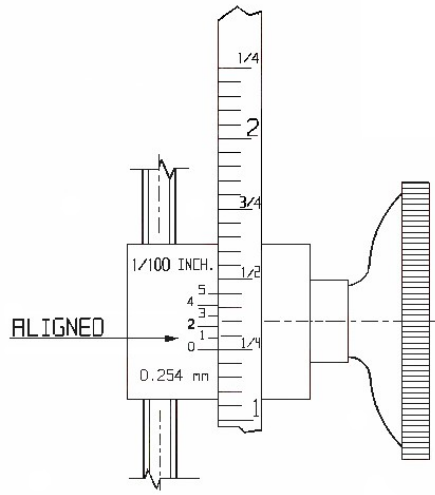

FIG. 2
(It is necessary to loosen the eye cup (D) when making any adjustments. Use light to moderate pressure when retightening the eye cup). The staff (A) is marked with 20 lines per inch and each line equals .050" (see "Using Minutes of Angle & Sight Scales" chart for further data). With the popular 30" barrel length, each .010" of elevation change equals 1.0 Minute of Angle (MoA) and at 100 yards one MoA = 1.0" and at 200 yards one MoA = 2.0 " and so forth for other hundred yard increases in distance. Each .050" line therefore equals 5.0 MoA or 5.0" at 100 yards and 10.0" at 200 yards and so forth longer distances. The moveable vernier slider (B) has five lines .040" apart. This system allows you to change elevation in 1/100 of an inch (.01"). Fig. 1 shows the vernier zero line aligned with the 1 1/4" line (1.25"). Fig. 2 shows line # 1 of the vernier aligned with the first line above the 1.25" line. This adds .01 to the 1.25 making the reading 1.26". Fig 3 shows the second vernier line aligned with the second line above the 1.25" line and this adds .02" to the 1.25" setting making the reading 1.27".